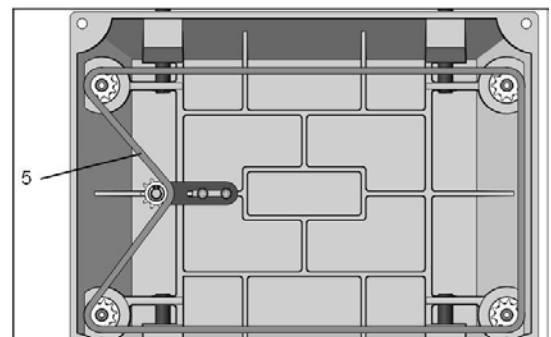

Fig. 31
- All chains must be lubricated regularly. (Fig. 31)